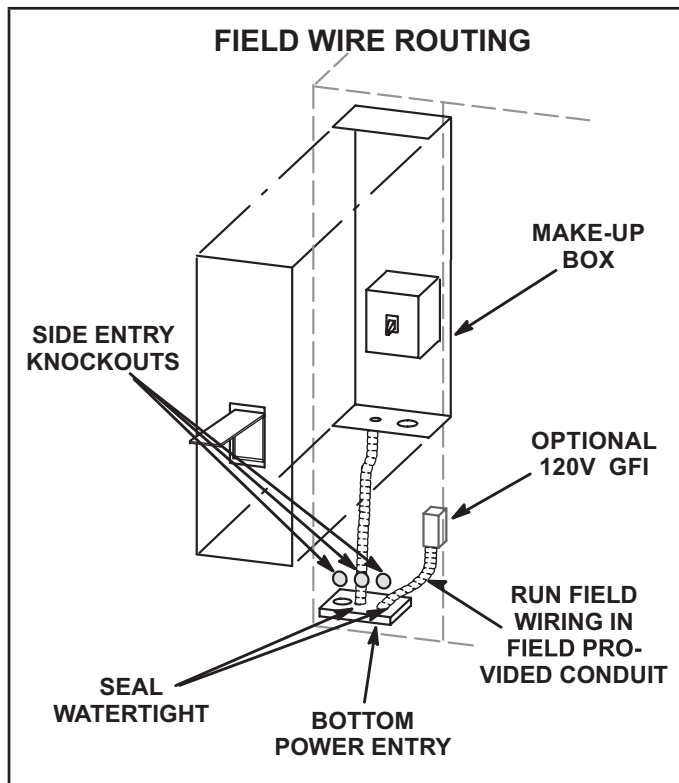

FIGURE 14
Route field wiring in conduit between bottom power entry disconnect. See FIGURE 14. This does not supersede local codes or authorities having jurisdiction.
- 3 - Connect separate 120v wiring to optional field-powered GFCI outlet. Route field wiring in conduit between bottom power entry and GFCI. See FIGURE 14. For unit-powered GFCI, no additional field wiring is required.